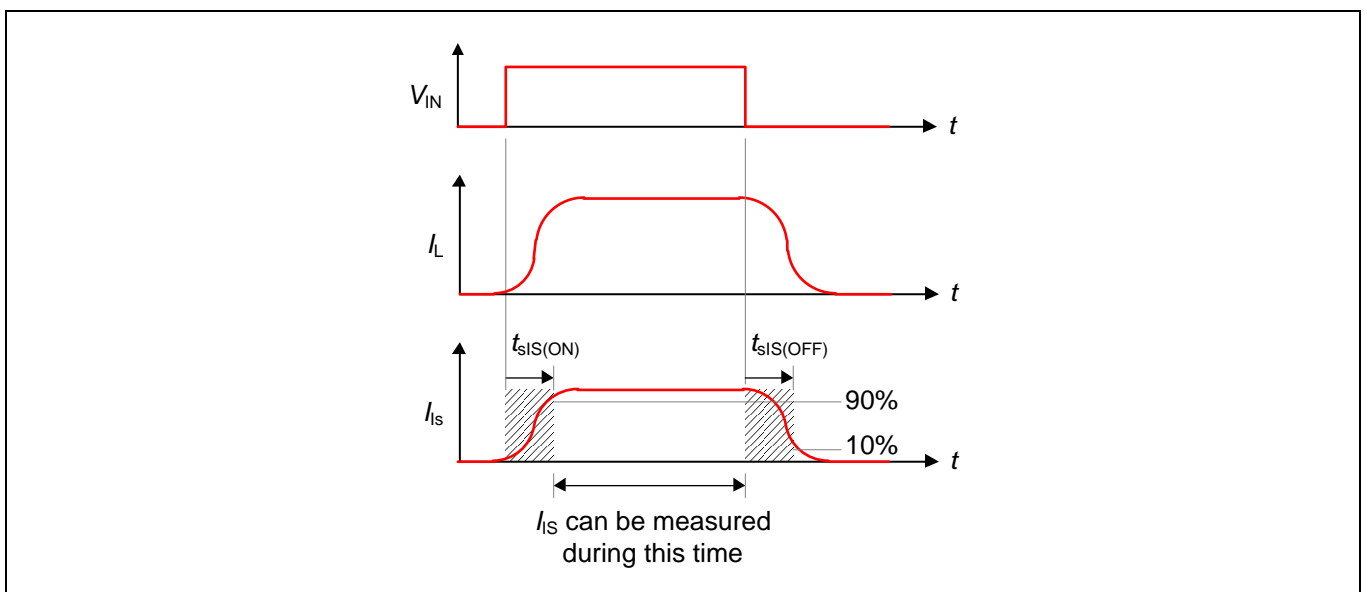
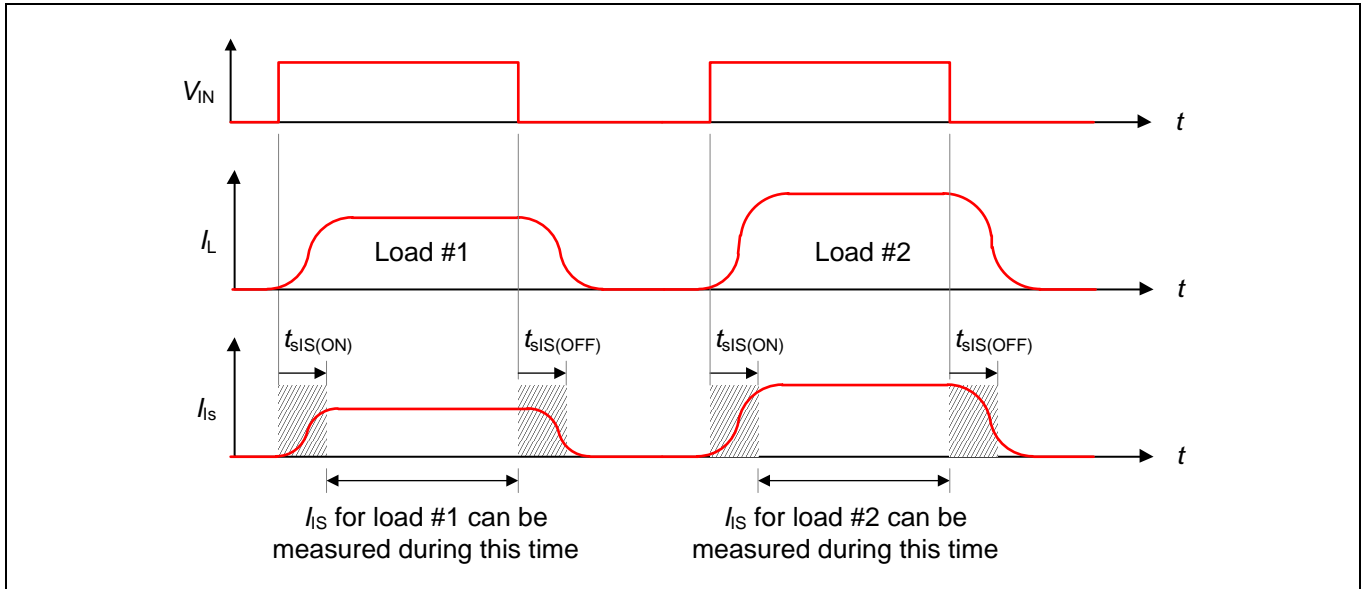

Figure 9 Relationship between I_{IS} and I_L in conventional devices
Figure 10 Measuring two loads using conventional devices
Now consider the information that is available when working with a conventional high-side power switch as illustrated in Figure 9.
The shaded areas of Figure 9 (and any equivalent illustrations later in this application note) indicate the times when the I_{IS} output is transitioning between ON/OFF states. These transition times, which are represented by $t_{sIS(ON)}$ and $t_{sIS(OFF)}$, are the 90% I_{IS} and 10% I_{IS} current sense settling times, respectively. The analog sense current signal is invalid during the current sense settling times.
As can be seen in Figure 9, the only value that is available is the sense current I_{IS} . There is no way to calibrate the sense current offset or the slope from a single reading. The only way to calculate these values is to use a 2-point calibration technique, which involves switching in two separate loads during manufacturing test as illustrated in Figure 10.
From Figure 10 and Equation (5), k_{IS} is traditionally calculated using a 2-point calibration technique, which involves switching in two separate loads during manufacturing test. From Equation (7), $I_{IS} = V_{IS} / R_{IS}$, so substituting for I_{IS} in Equation (5) allows k_{IS} to be calculated as shown in Equation (9).
The traditional method for determining the value of k_{IS} is called 2-point calibration. This involves switching two known loads at known temperatures, measuring the analog sense current for each load, and then using these measurements to calculate the k_{IS} and $V_{IS(OFFSET)}$ values as discussed in Figure 10 and Equation (5) and Equation (6).